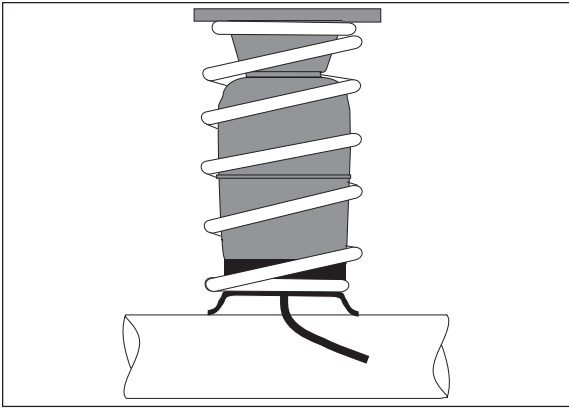

Figure 4
5. Insert the cylinders into the springs with the stem pointing downward. Install the springs back onto the vehicle's rear suspension. Add one round protector on the stem side (bottom) of the cylinder (Figure 4). Line up the mark previously made to align the air spring into position.
- F. Insert air line through spring seat and protector (Figure 4).